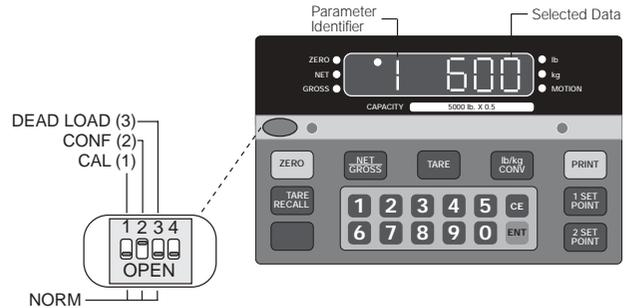

Figure 3-2. Closing Switch 2
3. Close switch SW1-2, marked **CONF** (2), by moving to the up position (see Figure 3-2). A prompt appears with a parameter number and data value.